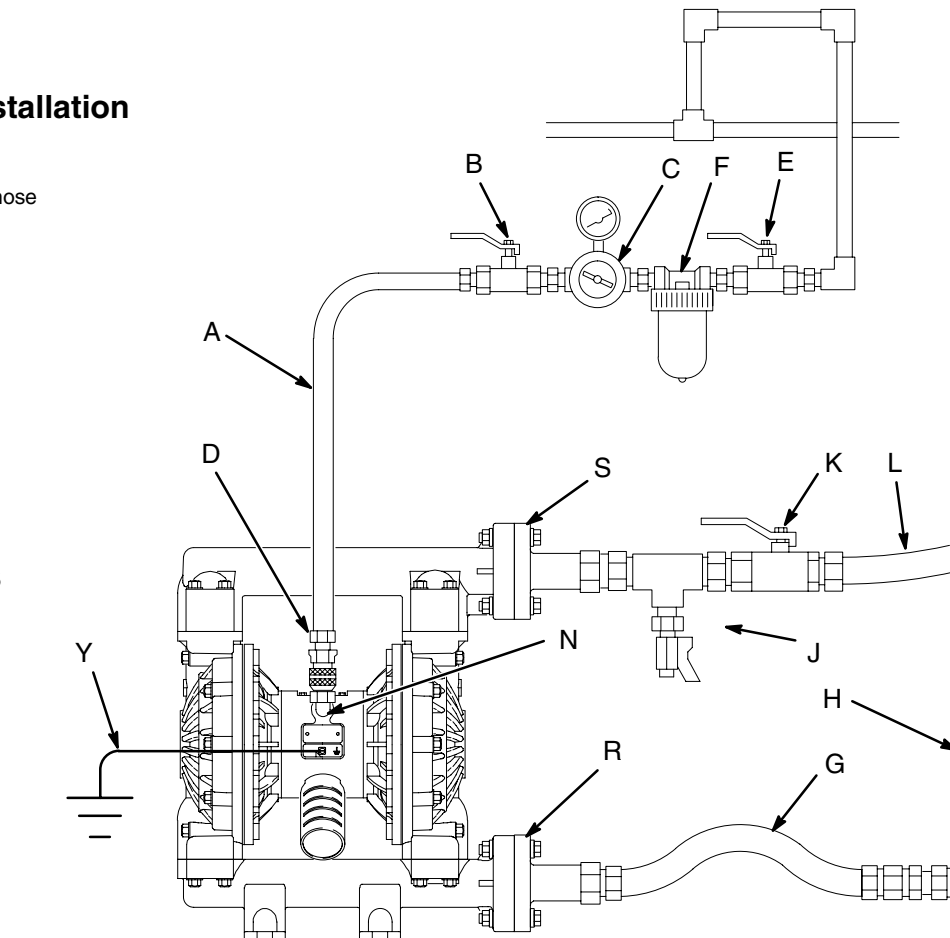

Fig. 2
- The Typical Installation shown in Fig. 2 is only a guide for selecting and installing system components. Contact your Graco distributor or Graco Technical Assistance (see back page) for assistance in planning a system to suit your needs.
A bleed-type master air valve (B) is required in your system to relieve air trapped between this valve and the pump. Trapped air can cause the pump to cycle unexpectedly, which could result in serious injury, including splashing in the eyes or on the skin, injury from moving parts, or contamination from hazardous fluids. See Fig. 2.
1. Install the air line accessories as shown in Fig. 2. Mount these accessories on the wall or on a bracket. Be sure the air line supplying the accessories is electrically conductive.
- a. Install an air regulator (C) and gauge to control the fluid pressure. The fluid outlet pressure will be the same as the setting of the air regulator.
- b. Locate one bleed-type master air valve (B) close to the pump and use it to relieve trapped air. See the **WARNING** at left. Locate the other master air valve (E) upstream from all air line accessories and use it to isolate them during cleaning and repair.
- c. The air line filter (F) removes harmful dirt and moisture from the compressed air supply.
2. Install an electrically conductive, flexible air hose (A) between the accessories and the 1/2 npt(f) pump air inlet (N). See Fig. 2. Use a minimum 1/2" (13 mm) ID air hose.
3. Screw an air line quick disconnect coupler (D) onto the end of the air hose (A); be sure the coupler porting is large enough to not restrict the air flow, which will affect pump performance. Screw the mating fitting into the pump air inlet snugly. Do not connect the coupler (D) to the fitting until you are ready to operate the pump.
### KEY FOR FIG. 2
A fluid drain valve (J) is required to relieve pressure in the hose if it is plugged. The drain valve reduces the risk of serious injury, including splashing in the eyes or on the skin, or contamination from hazardous fluids when relieving pressure. Install the valve close to the pump fluid outlet. See Fig. 2.
1. The pump fluid outlet (S) is a 1-1/2 in. raised face flange. Refer to **Flange Connections** on page 8.
2. Install a fluid drain valve (J) near the fluid outlet. See the **WARNING** above.
3. Install a shutoff valve (K) in the fluid outlet line.